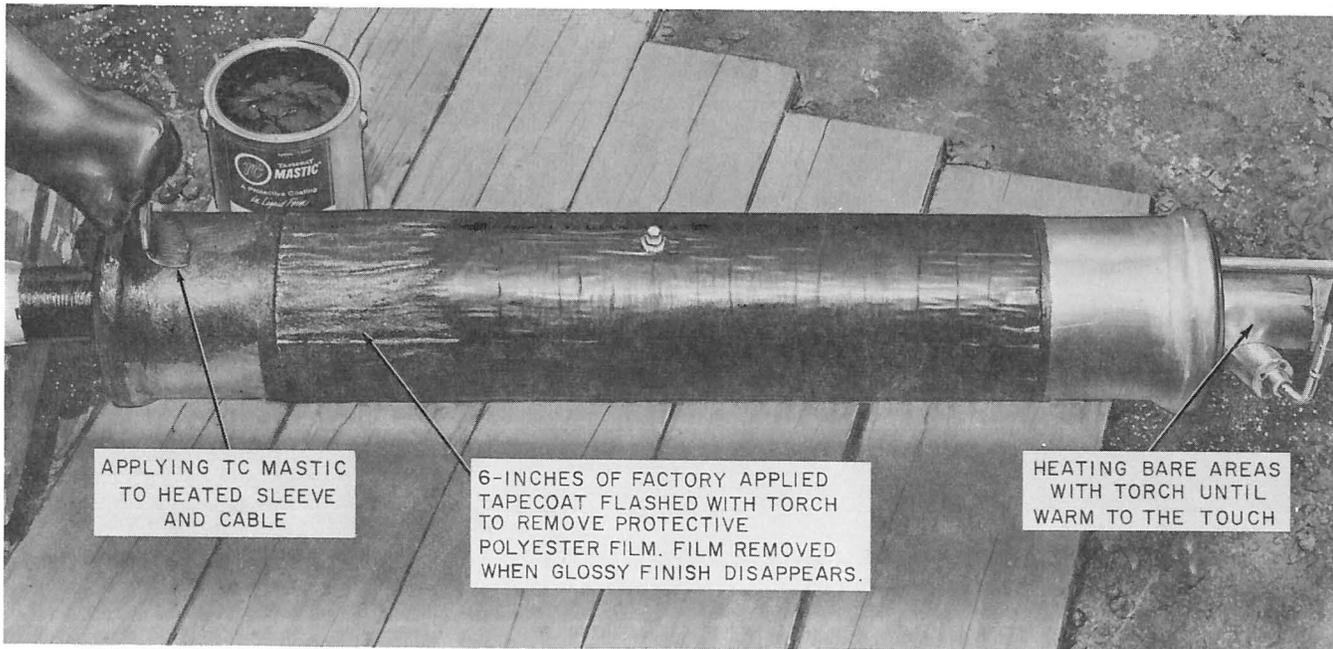

Fig. 14—Applying TC Mastic
9.02 Using the torch, heat the exposed metal areas of the sleeve and cable until it is warm to touch (Fig. 14) then flash the surface of the factory-applied Tapecoat 20 with the torch for a distance of 6 inches in from each end. This removes the protective polyester film so that an overlapping layer of Tapecoat to be applied will adhere. The polyester film is removed when the glossy finish disappears. If the Tapecoat 20 ignites, excessive heat is being applied.
9.03 Using a 2- or 3-inch stiff bristle brush, apply the TC Mastic vigorously as shown in Fig. 14 to *all exposed* metal from the glass tape on each side of the cable to the factory-applied Tapecoat on the sleeve. Immediately apply an